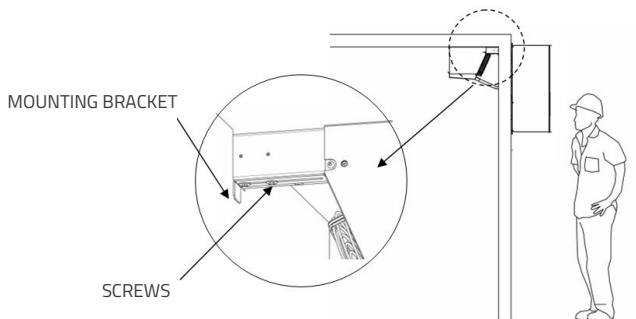

Fig.10 Mounting in saddle mode
- 2) Lift the monoblock with a forklift or other suitable lifting equipment and position the unit so that the supports correspond with the slots created in the cell wall and attach the monoblock structure to the wall by adjusting the mounting bracket as shown in Fig.10.